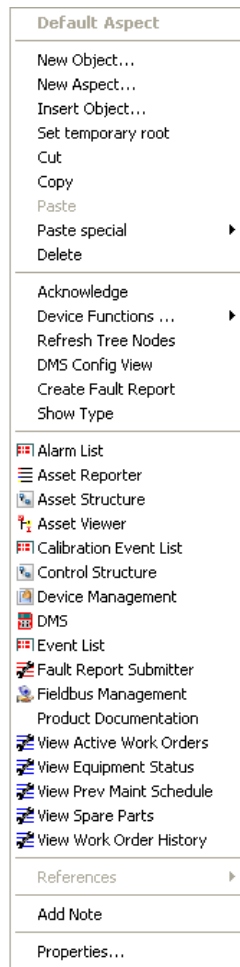

Figure 17. Example of an Object Context Menu
3. Click on the **Add** button in the Aspect Menu. The Add Aspect Favorite dialog will be displayed (see Figure 17) which allows you to select the aspect to add to your favorites list. The favorite will be added to the folder selected in the Aspect Menu. In the Add Aspect Favorite dialog, you can select the folder to create the aspect Favorite in by clicking on it. Select **New Folder** if you wish to place the Aspect favorite in a new folder. You can also change the name of the Aspect Favorite.
The different parts of the object context menu are as follows (Figure 17):